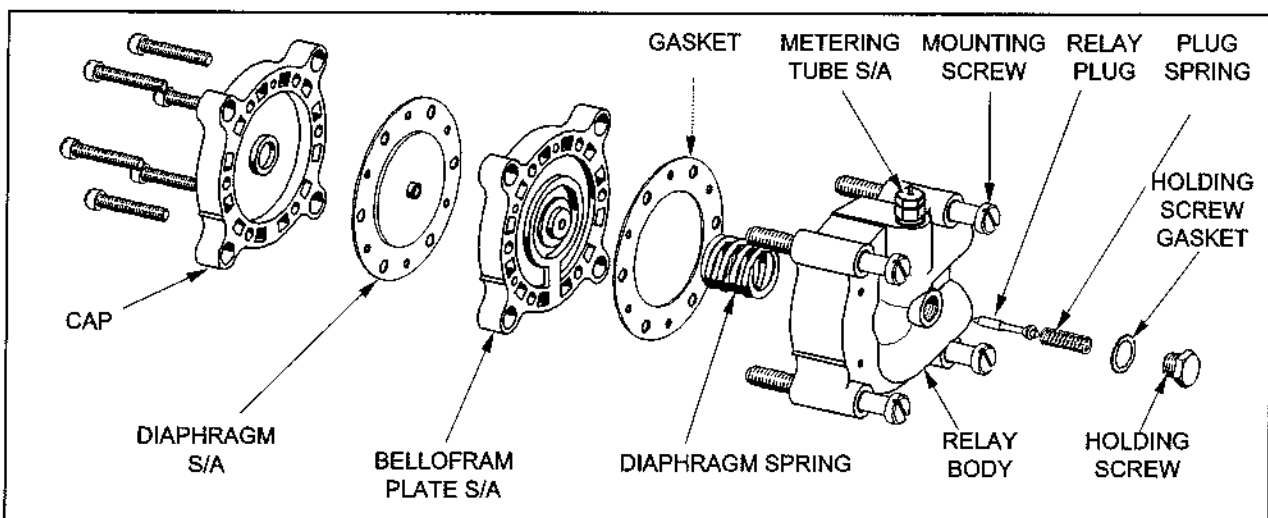

Figure 7 - Relay
4.1 Metering tube (Figure 7)
4.2 Relay (figure 7)